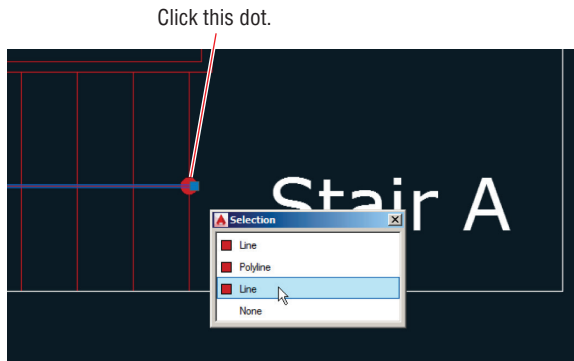

FIGURE 4.8 Selection cycling
9. Click the dot at the end of the stair direction line (shown in Figure 4.8). This dot is at the confluence of the horizontal stair direction line and the vertical tread line. When Selection Cycling is on, you are presented with the Selection dialog box whenever your selection is ambiguous. Hover the cursor over the items in the list, and each one is highlighted in blue on the drawing canvas. Select the line in the list that highlights the stair direction line, as shown in Figure 4.8, and then press Esc.